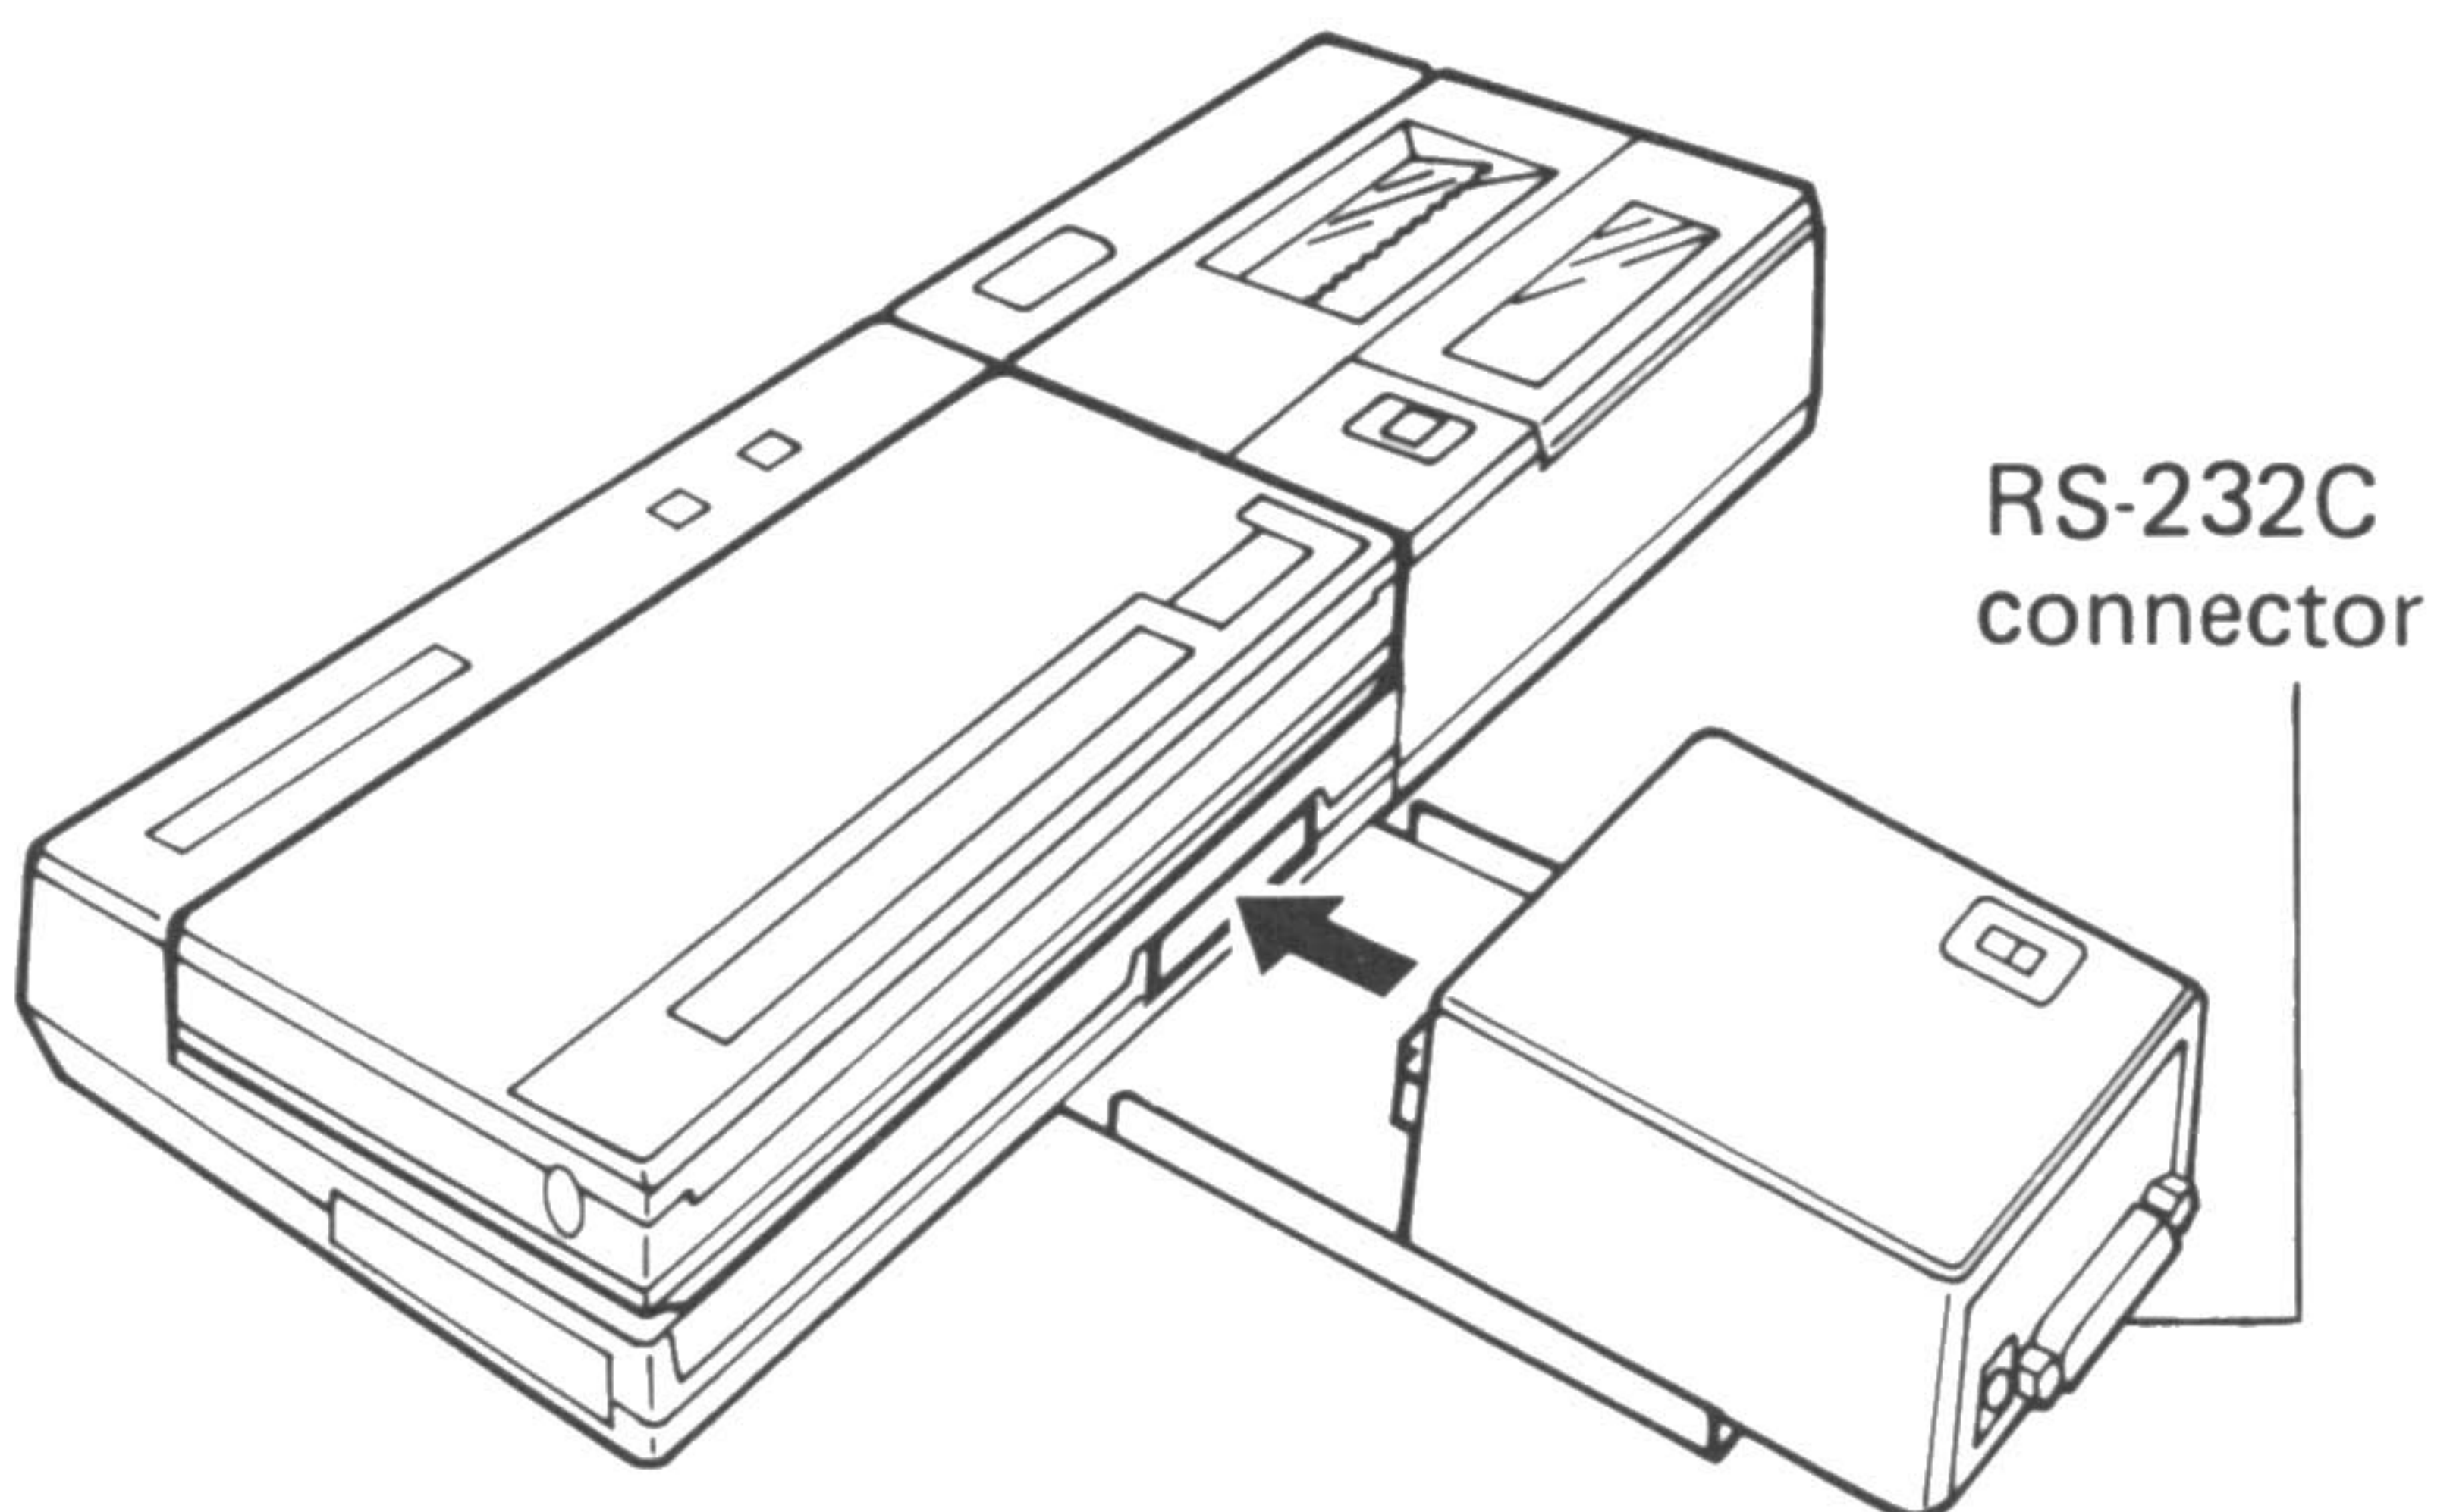

Figure 5. RS-232C Interface to Printer/Plotter/Dual Cassette Interface.
2. Slide the RS-232C Interface onto Metal Support Bracket B so that the Interface's male 60-Pin Plug connects with the Printer/Plotter/Dual Interface's female 60-Pin Plug. (See Figure 5.)